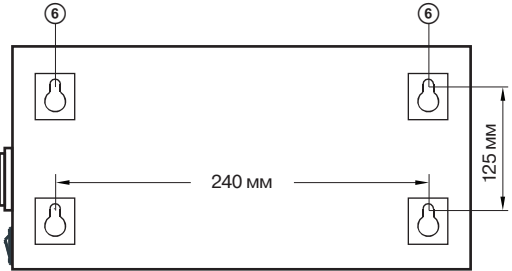

Fig. 2. Rear panel
- Next, make a mounting fasteners (not included) to the wall, considering the wall mounting holes location ⑥ on the stabilizer rear panel (see Fig. 2).